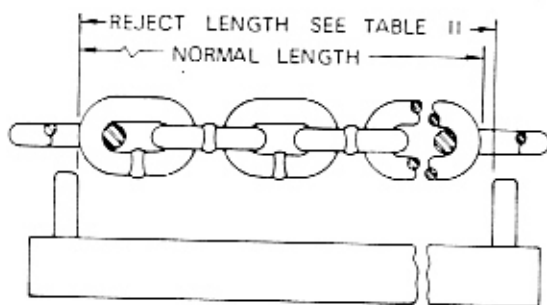

FIGURE 4-2. CHAIN SALVAGE GAUGE
a. Inspect the chain for "elongation", which is a condition caused by overloading or wear. Table II shows the normal and reject lengths for MAL hoist chain. A chain gauge similar to that shown in figure 4-2 or a Vernier caliper may be used. Hang the chain up or stretch it out on a work table in a taut position. Place one edge of the gauge or caliper over the end of a chain link. The number of links within the gauge limits will correspond to the "Number of Links" as indicated in Table II. If the last link, which should be within the gauge limits, makes contact or extends past the inside edge of the gauge, or if the reading of the